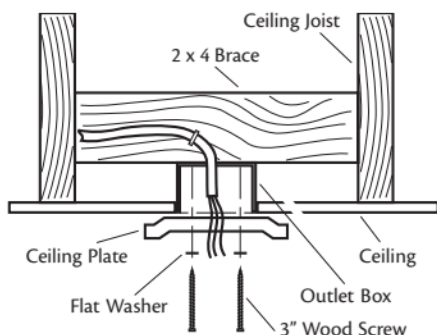

Figure 11 - Installing the ceiling plate
- Place a flat washer on each of the two 3" screws and pass the screws through the slotted holes in the ceiling plate as shown in Figure 11.